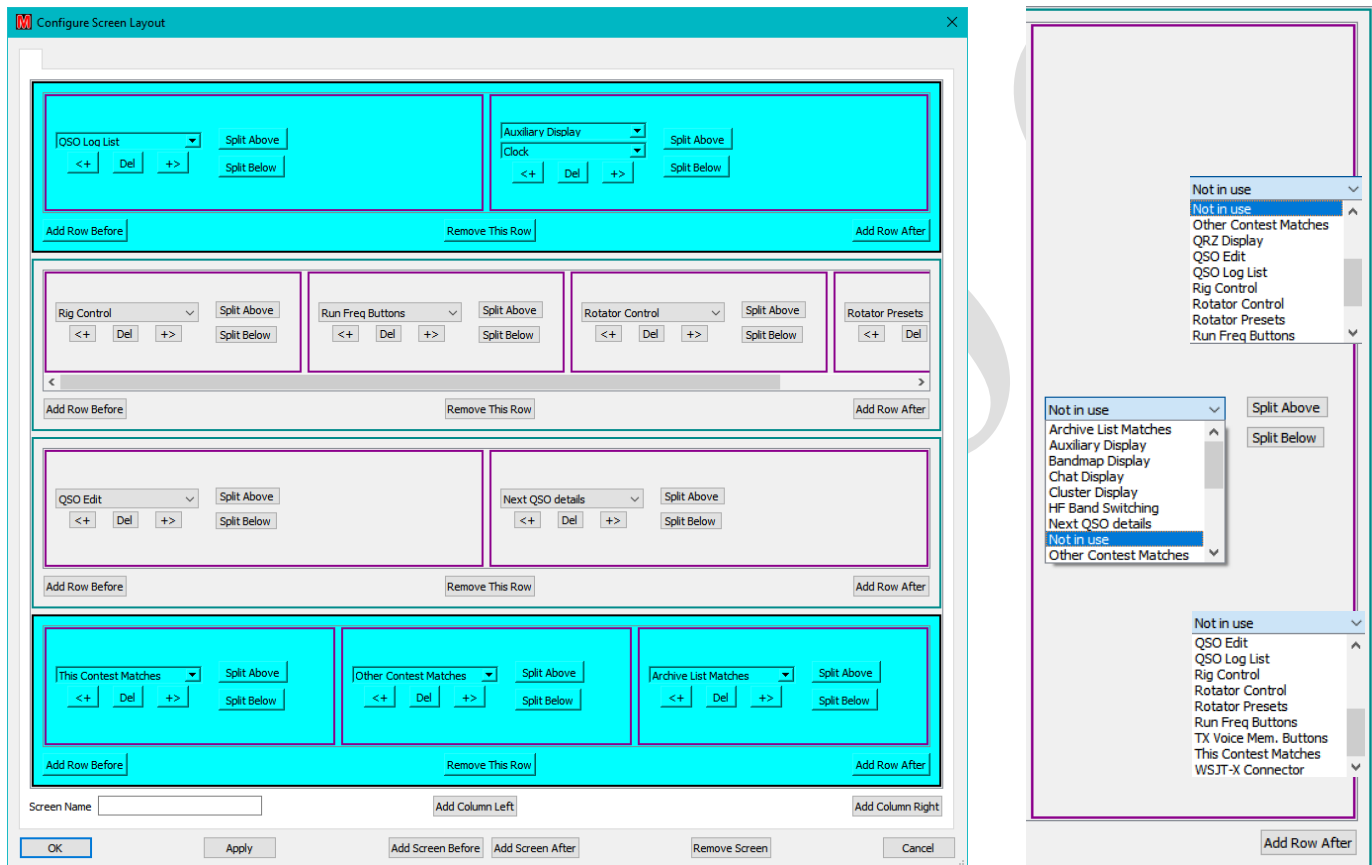

Figure 55 – Add column to left/right
- “**Add Column Left/Right**” is typically used for the Bandmap Display⁵⁴ (Figure 55 right), although other panels may be configured. The extent of the column is marked using the CTRL key (Figure 55 left) and clicking to select the top and bottom rows, then clicking the requisite button⁵⁵.